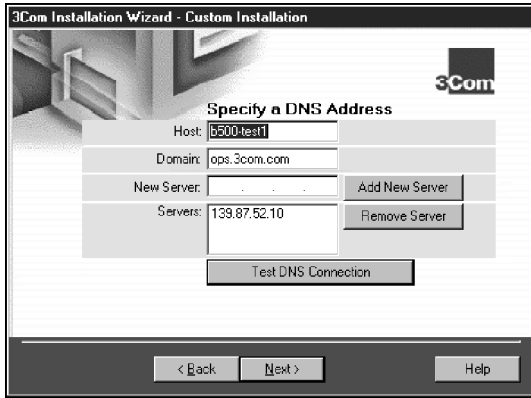

Figure 3-9 Specifying a DNS Address Screen
- 1 **Select the *Specify DNS manually* radio button if you are using a permanent DNS address. See Figure 3-9.**